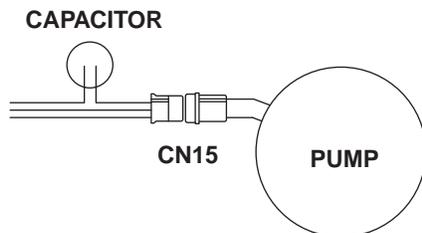

Figure 5-10.
2. Disconnect the 3 pin connector CN15 at the motor. Leave all other connectors connected. See figure 5-10.